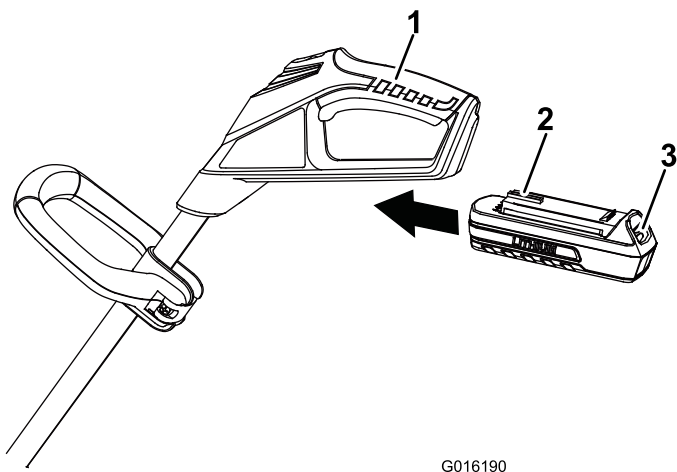

Figure 6
- Align the tongue of the battery pack with the cavity in the handle housing (Figure 6).
2. Grasp the trigger handle (Figure 6).
4. To start the trimmer, slide the lock switch back to the On position, then squeeze the trigger (Figure 6).